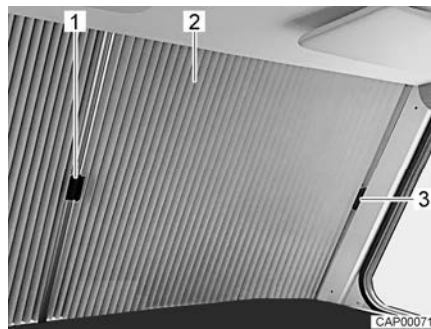

Fig. 11 Roman shade for windscreen (closed)
- Push the respective handle (Fig. 11,1) of both halves of the Roman shade (Fig. 11,2) outwards, underneath the cover on the A column.
- Fix the handles respectively by plugging them onto the cover (Fig. 11,3). Thus, the windscreen shade is secured against closing involuntarily during the journey.